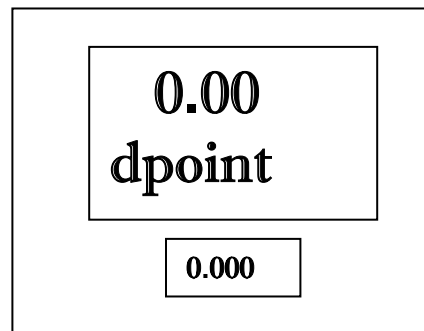

Figure 11
1. After the Manager's Mode has been accessed, press the 8 button and then the **MODE** button on the keypad. The United States standard decimal placement appears in the main display and PPV display. The number 0.00 appears in the main display to show the dispenser is set for U.S. Standard. See Figure 11.